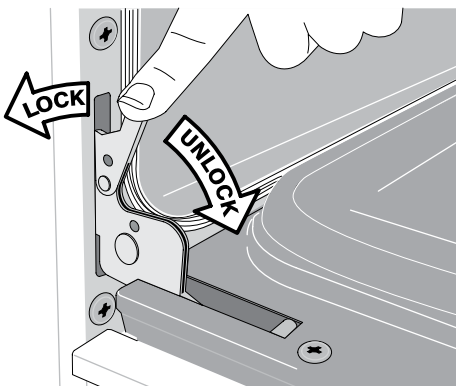

Figure 2
2. Pull the door hinge locks on both left and right door hinges down from the oven frame completely towards the oven door (See Figure 2). A tool such as a small flat-blade screwdriver may be required.
4. Push the door hinge locks up towards and into the oven frame on both left and right oven door hinges (See Figure 2) to the locked position.